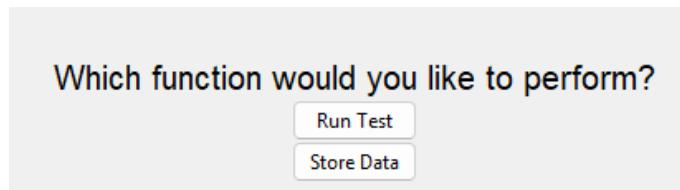

Figure 3.16 - Run Test or Store Data Screen (TS)
2: The screen in figure 3.16 will be displayed. Click “Store Data.” (TS)